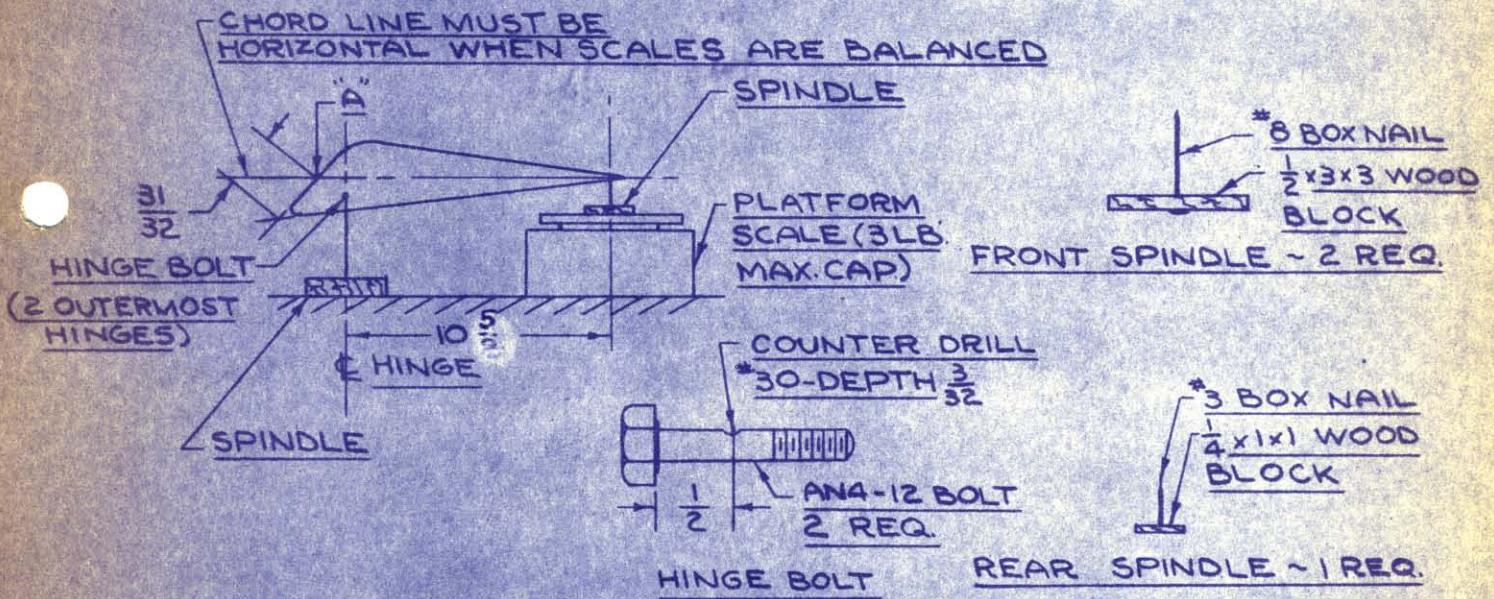

FIGURE NO. 1
1. Determine the balance condition of the ailerons as they are when removed from the wings (previous to beginning modifications). Record this information on the attached form page No. 5 and return it to the Beech Aircraft Corporation. Be sure to do this as the Civil Aeronautics Authority requires this information. The aileron should be set up as illustrated in Figure No. 1 with the chord line horizontal. The chord